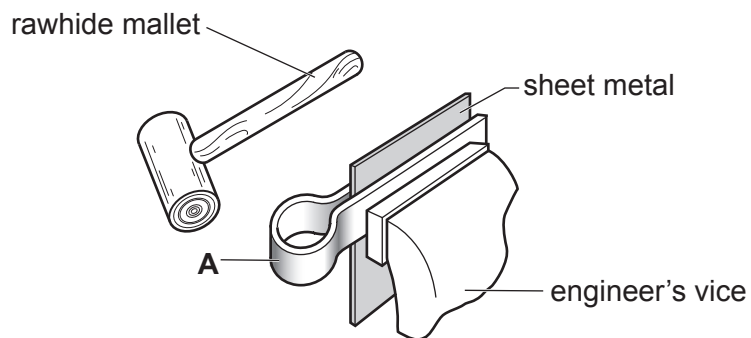

Fig. 3.1
- 3 Fig. 3.1 shows a piece of sheet metal that will be folded to shape using a rawhide mallet.
- (a) Name the item of equipment labelled **A** in Fig. 3.1.